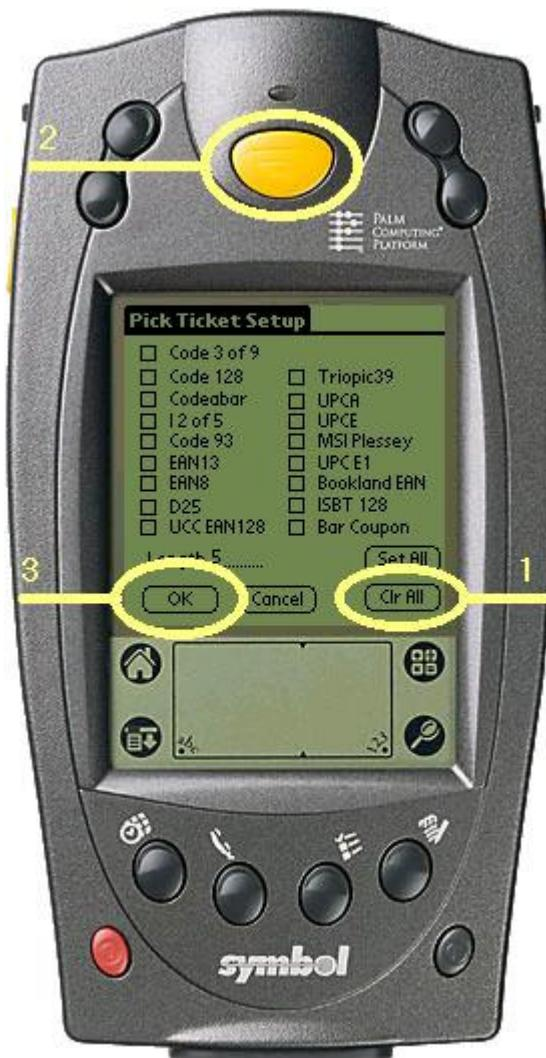

FIGURE 13. PICK TICKET SETUP MENU
Press the Clr All button (see figure 13, item 1 below).
Then scan a sample pick ticket barcode by pressing the barcode scan button (see figure 13, item 2 below), and press the OK button (see figure 13, item 3 below).